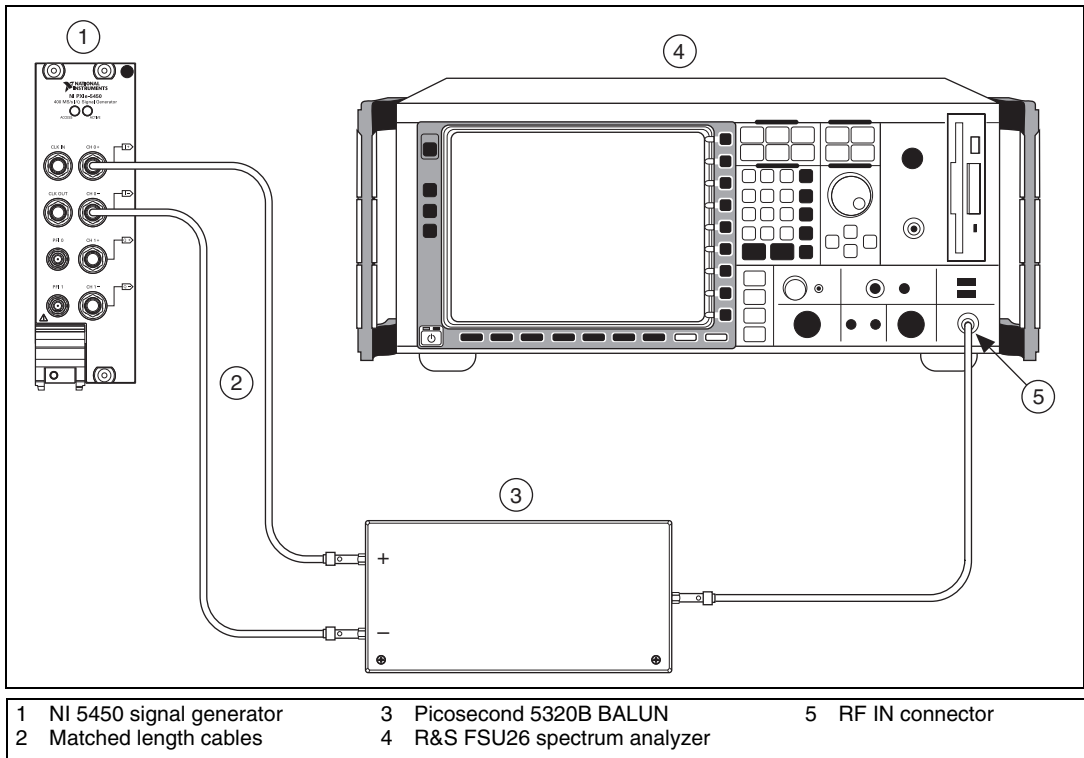

Figure 10. NI 5450 Connection to Spectrum Analyzer Using a BALUN (CH 0)
1. Connect the devices as shown in Figure 10.